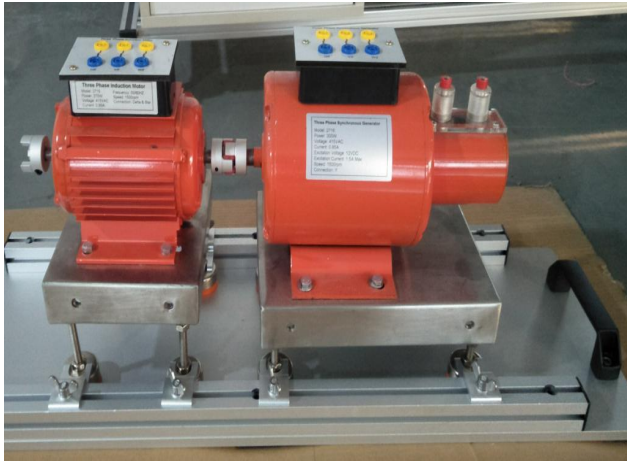

Fig.1.4.2(b)
- 2) Set up the generator test platform as shown in Figure 1.4.2(b)